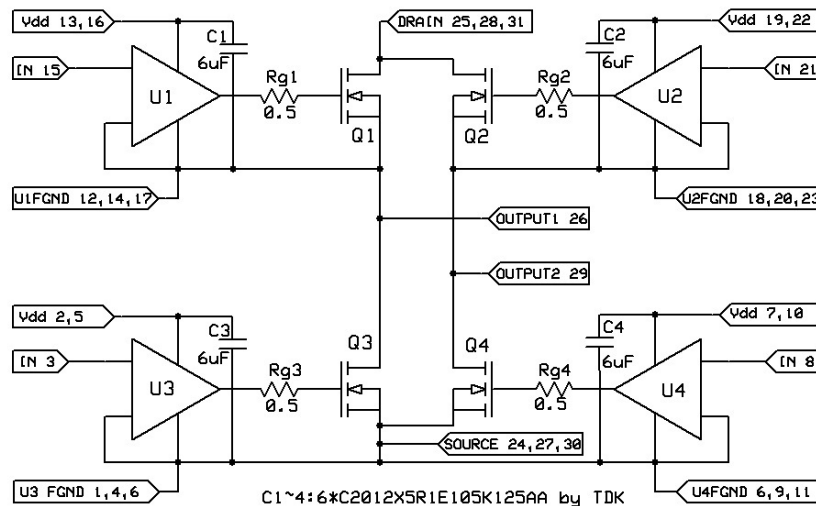

Figure 1, DRF1510 Simplified Circuit Diagram
The DRF1510 is a full bridge power hybrid, see Figure 1 above. Each half bridge of the hybrid consists of two Gate Drivers and two HV Power MOSFETs. In the left HB of the hybrid, U1, U3 is the Gate Driver for Q1, Q3. The input to U1, U3 (IN) with respect to ground (SG) is a CMOS level. C1, C3 provides internal high speed bypassing for the drivers power input +Vdd. Both pins (2, 5 & 13,16) must be attached to the 15V supply and bypassed near each pin. By including the driver high speed by-pass capacitors (C1-C4), their contribution to the internal parasitic loop inductance of the driver output is greatly reduced. This, coupled with the tight geometry of the hybrid, allows optimal gate drive to the MOSFET. The right HB of the hybrid is constructed in an identical manner, U2,4,C2,4 and Q2,4.